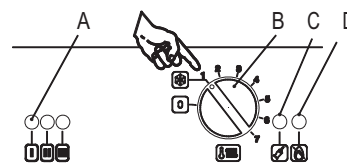

Figure 15.3
- Turn the function selector B as in Fig. 15.3. The appliance operation light A will flash every 2 seconds.
To reset the boiler turn the knob B (Figure 15.3) on the 0 position and then press and release the boiler reset button C (Fig. 15.3).
With the burner on high flame close the gas cock. After three ignition attempts (within about three minutes), the lock-out signal lamp must appear (D on Figure 15.3). To reset the boiler turn the knob B (Figure 15.3) on the 0 position and then press and release the boiler reset button (C on Figure 15.3).